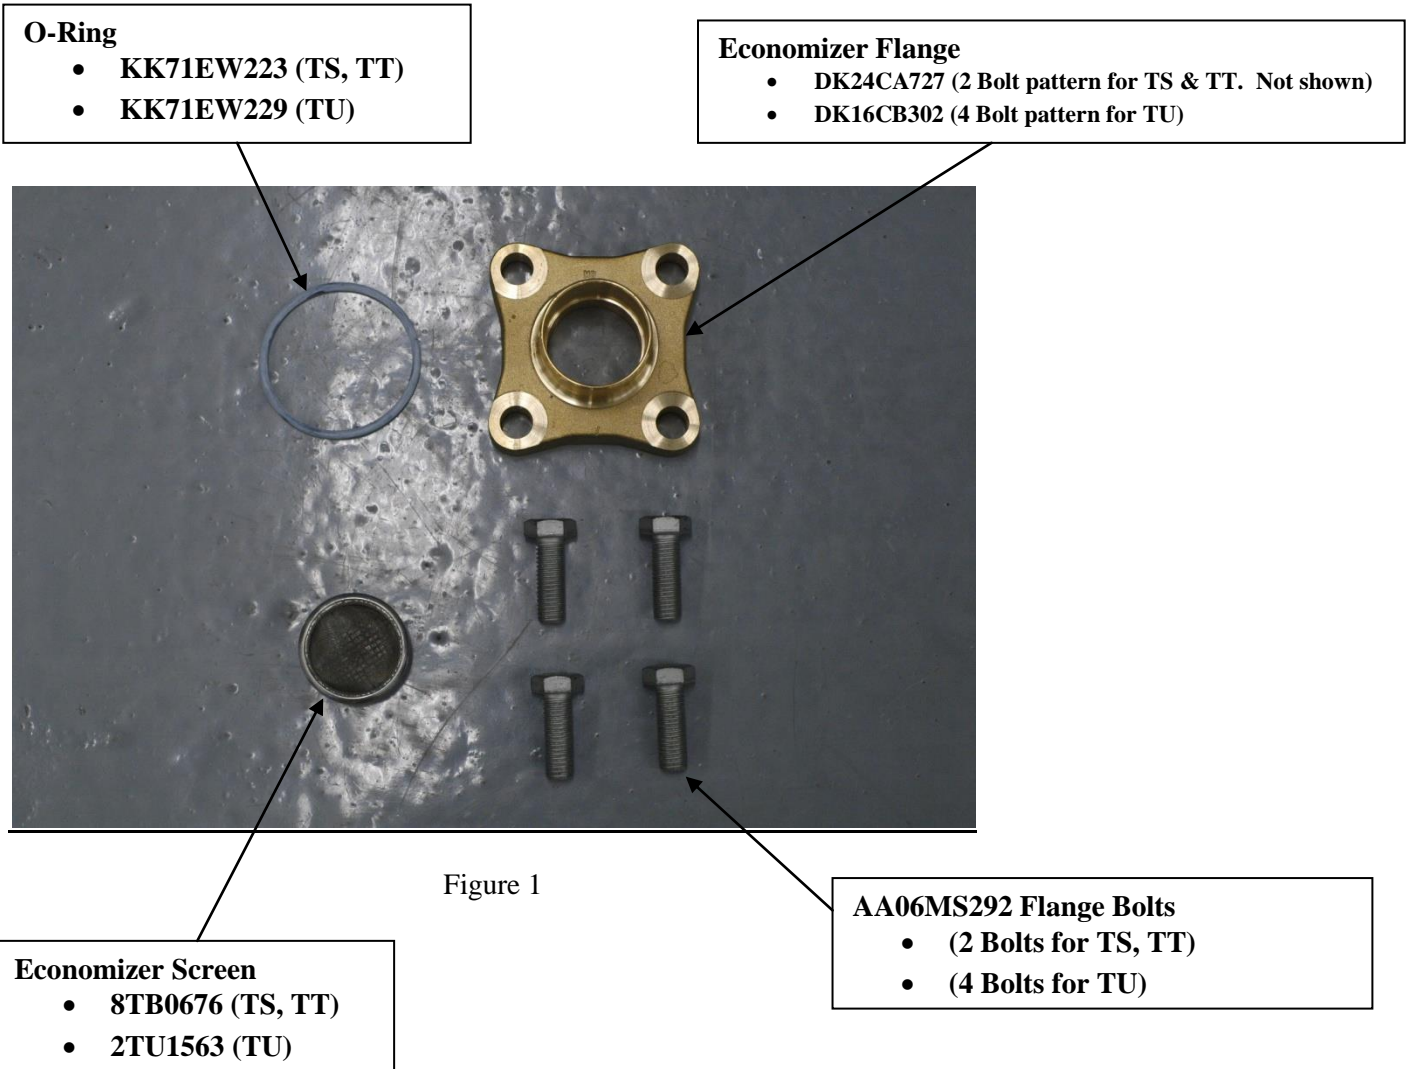

Figure 1
- Verify the content of the kit is complete and according to the pictorial shown in Figure 1 and parts are clean and free from damage.